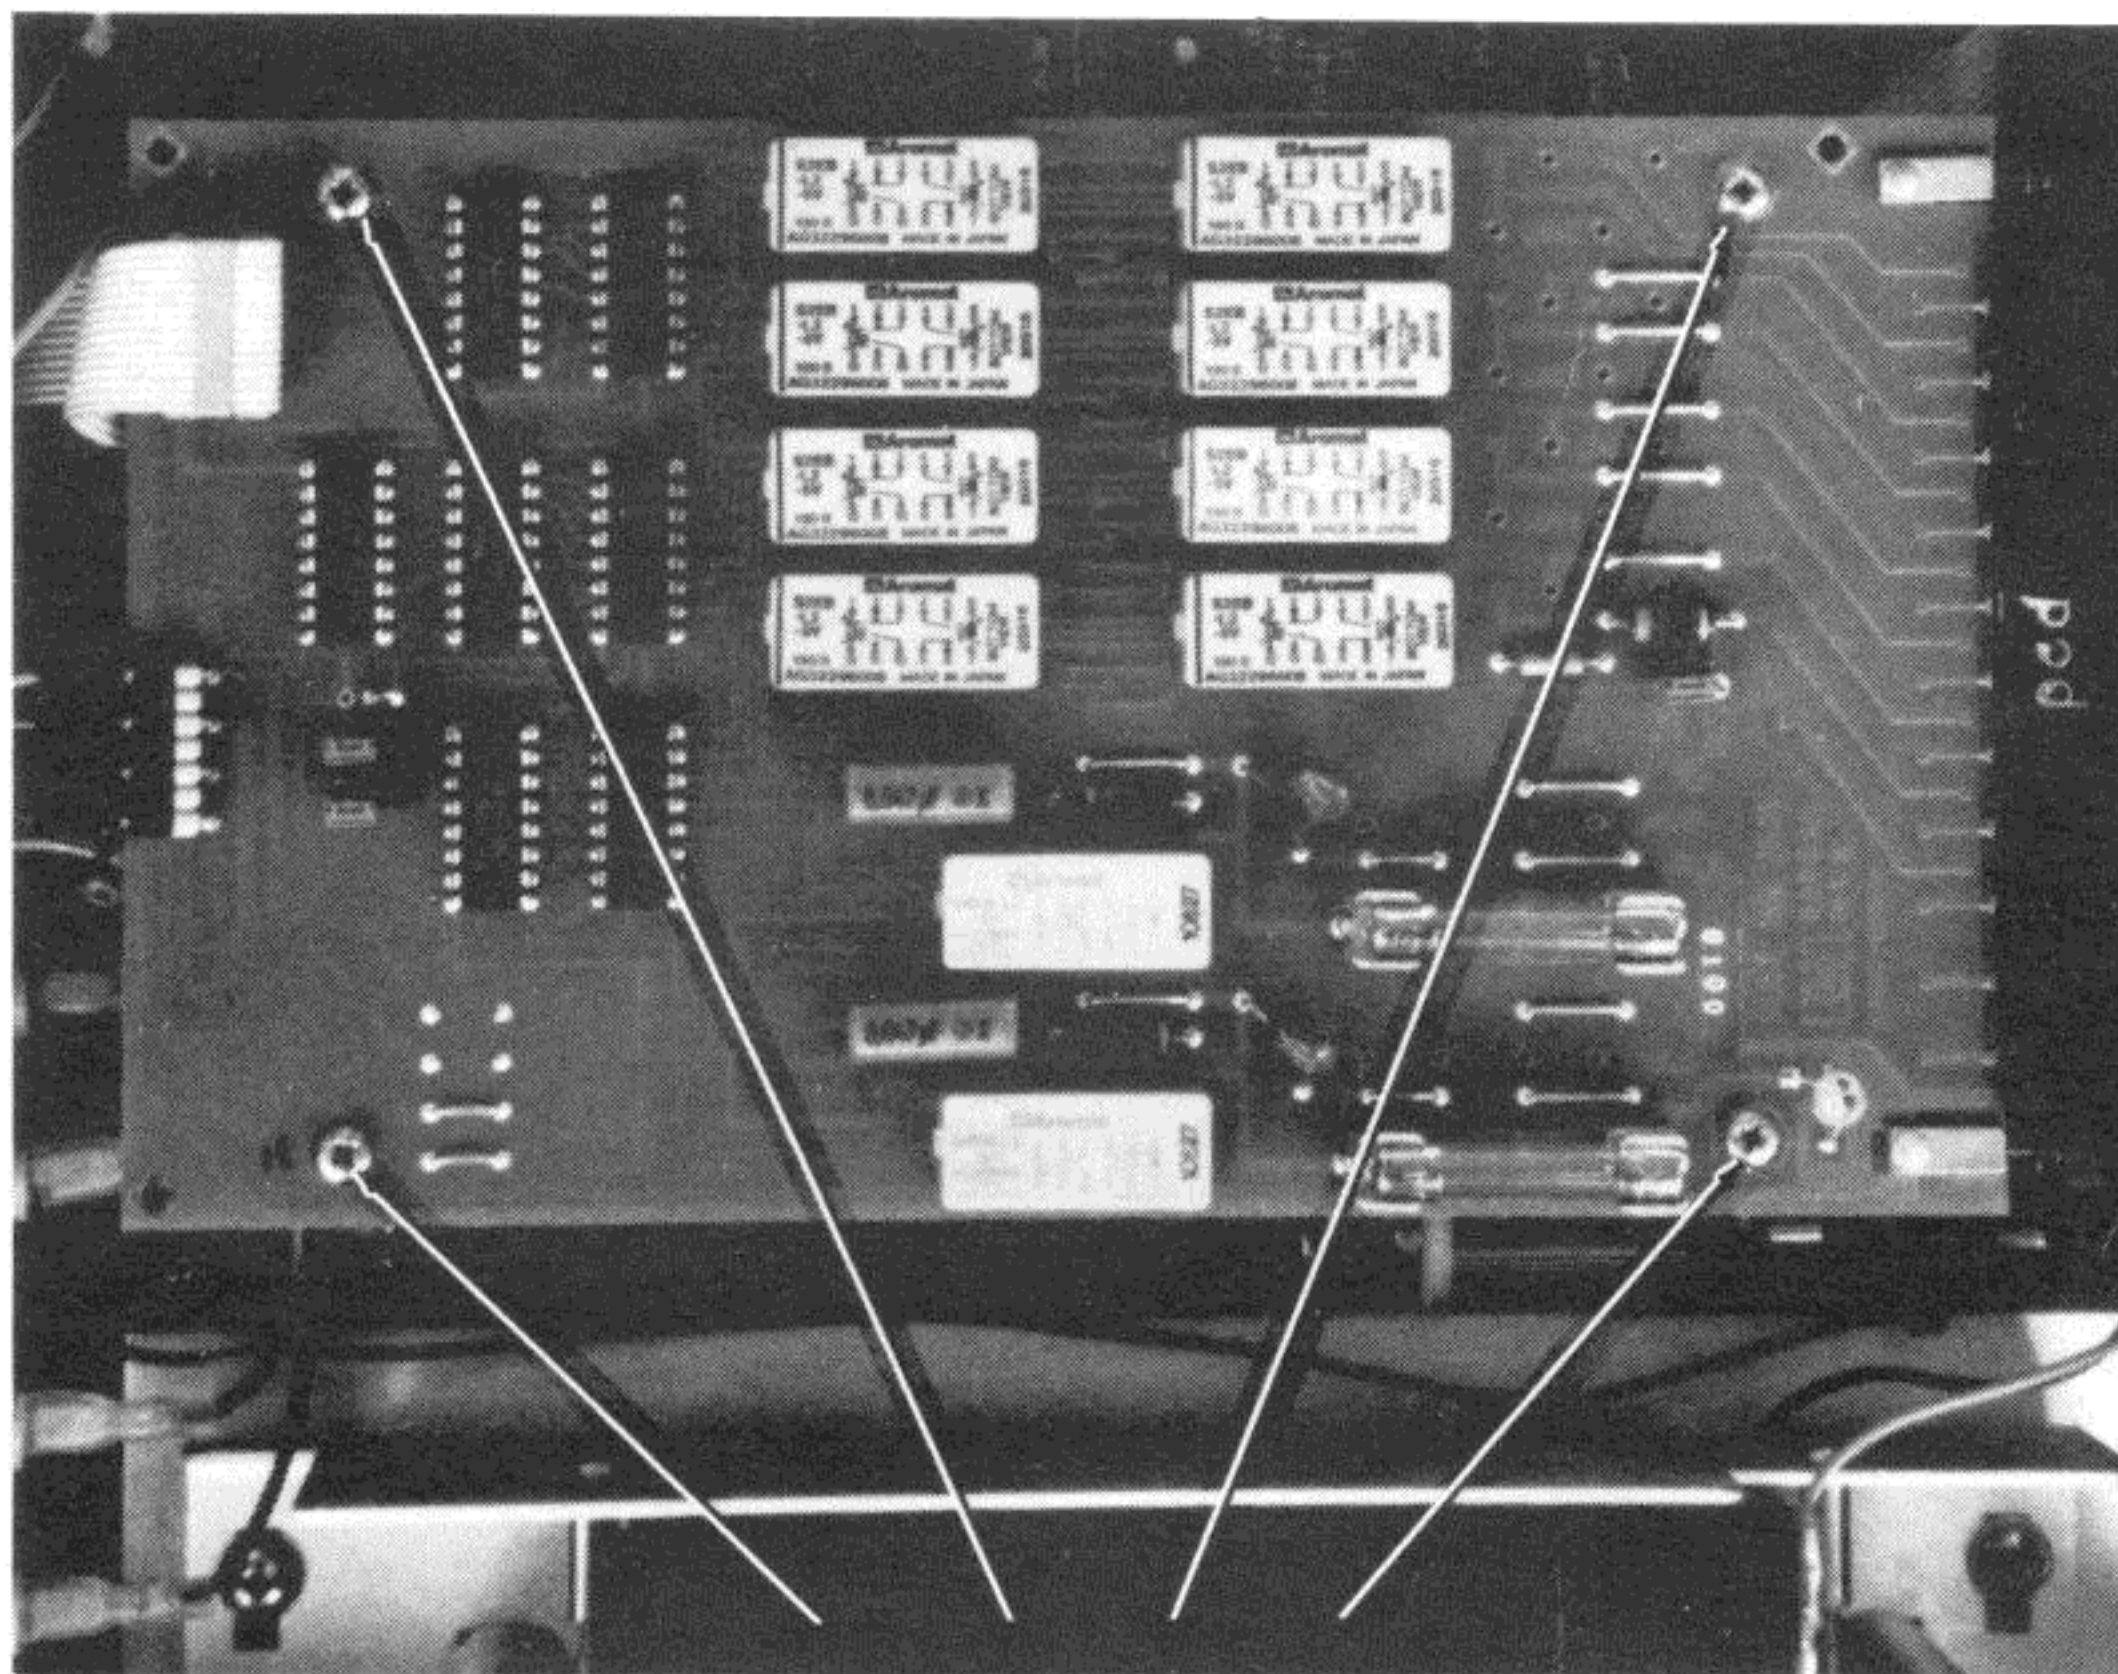

Figure 2-2-5. Removing Hex Screw Standoffs
- b. Using a 7/32" wrench, remove the four hex screws standoffs as shown in Figure 2-2-5.